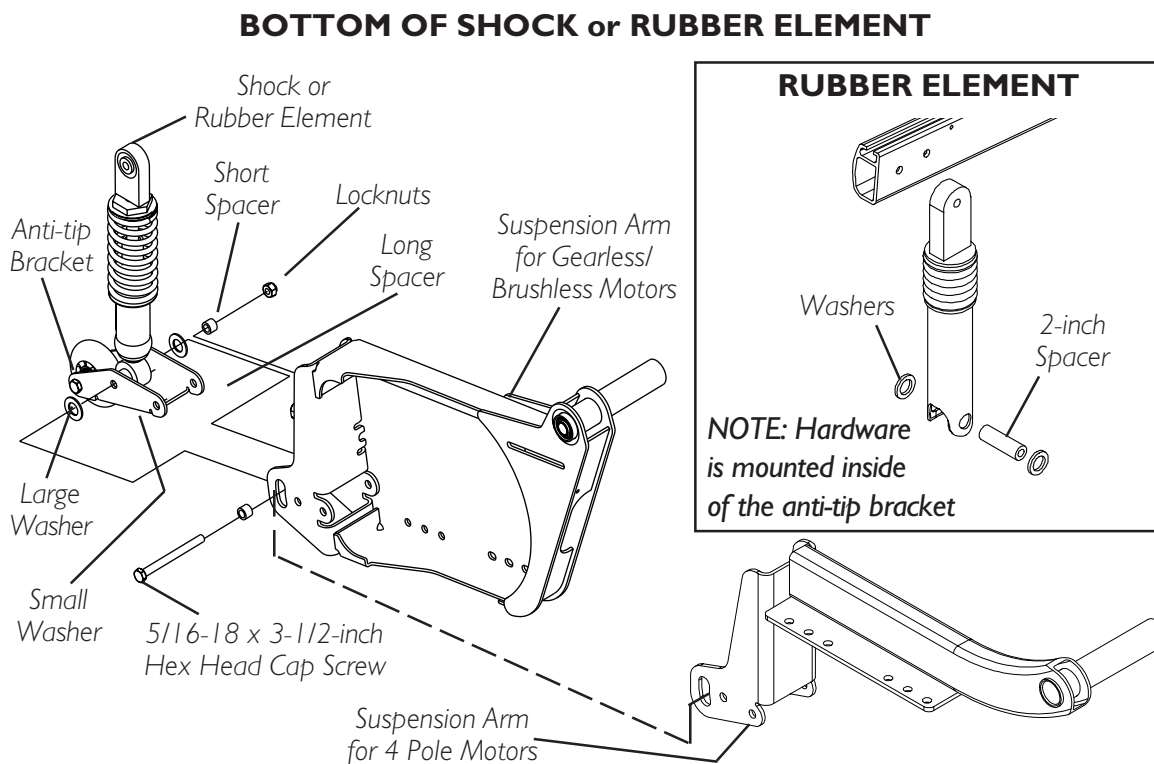

FIGURE 6 - SHOCK OR RUBBER ELEMENT REPLACEMENT - GROUP 24 BATTERIES OR 22NF BATTERIES
22NF BATTERIES (FIGURES 6 AND 7)
4. **For 3-inch anti-tip assemblies (FIGURE 6)** - Remove the mounting screw, two (2) short spacers, two (2) large washers and locknut that secure the shock to the anti-tip bracket and suspension arm.
7. Secure the bottom of the NEW shock to the suspension arm with the existing mounting screw and locknut. Apply Loctite 242 and torque to 160 in-lbs. (FIGURE 6).